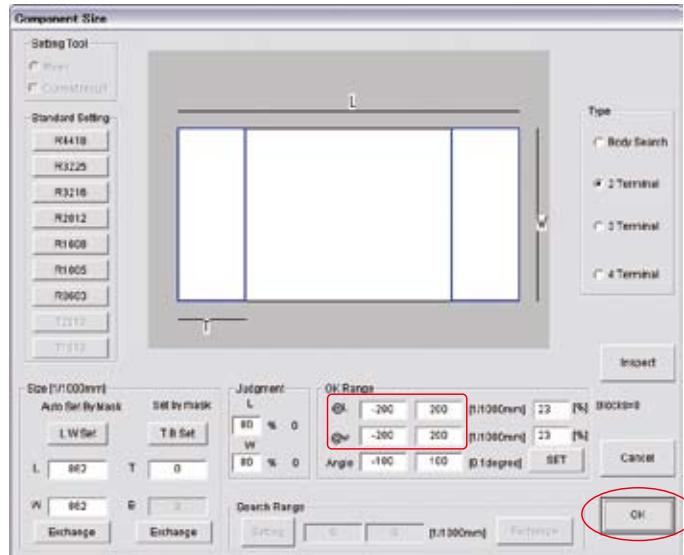

Figure 1-2 OK Range Setting
Step3: Press **Option** in the right side of **Algorithm**. The window shown in Figure 1-2 appears.